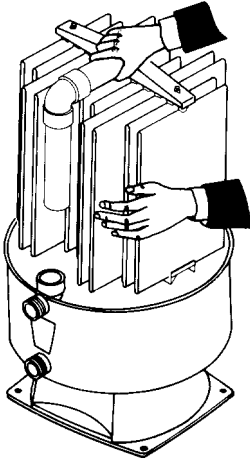

Figure 8
Remove and thoroughly clean filter element assembly. use cleanser or detergent and a bottle brush to remove plaster dust (see Figures 8 and 9, Page 10).
- 3. Grasp element assembly at top manifold plate (Figure 8) and remove it.